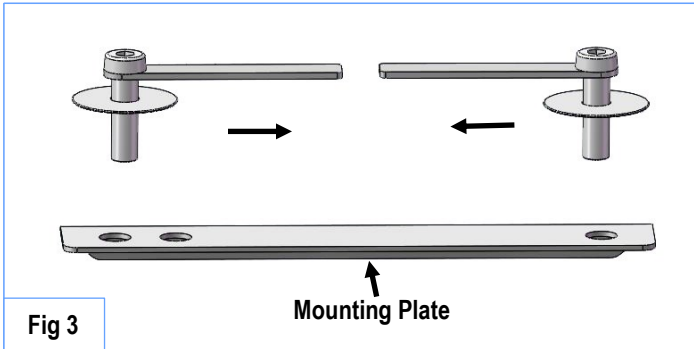

Fig 3
Note: The Plates on the (2) Bolt Plates must be pointed toward each other, (Fig 3)
Select (1) Mounting Plate, (Fig 3). Slide the Mounting Plate over the (2) M10X35 Bolt Plates with the bent side toward the pinch weld. Attach the Lock Plate to the rear Bolt Plate only with (1) M10 Flat Washer, (1) M10 Lock Washer and (1) M10 Hex Nut, (Fig 4). Tighten the Hex Nut at this time.